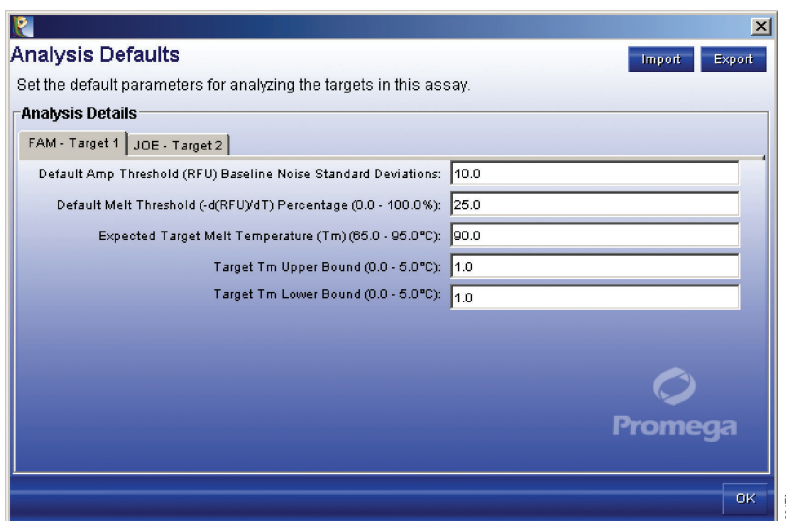

Figure 42. The Analysis Defaults tab.
2. Enter the desired values for the analysis defaults for each dye used (Figure 42).